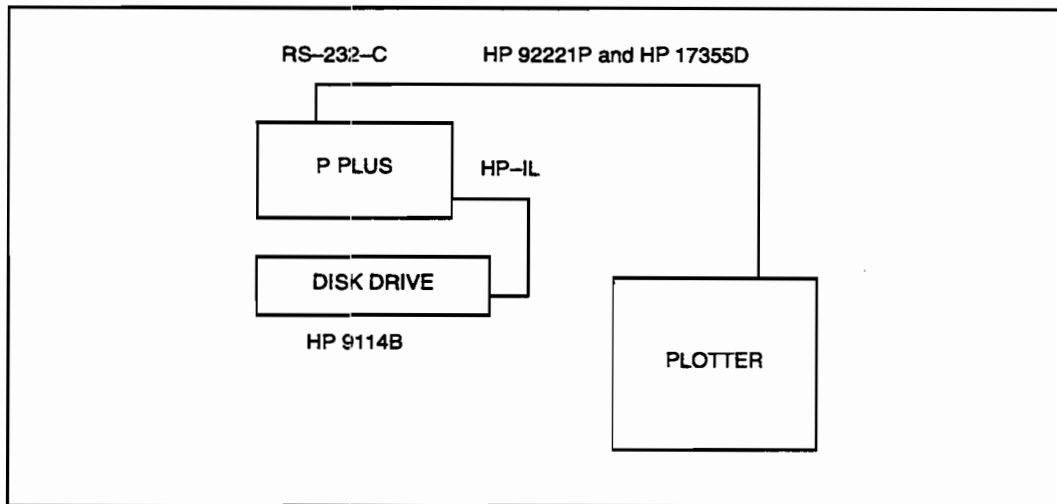

Figure 8-16. RS-232-C Test
4. Connect the Portable PLUS as shown in Figure 8-16.